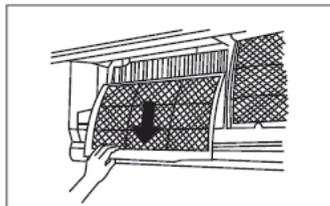
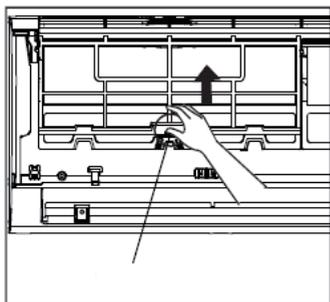

fig. 16 -
fig. 15 -
3. Remove the filters by pushing up the central tabs until they free themselves from the retainer and slide them off downwards ("fig. 15 -" and "fig. 16 -")